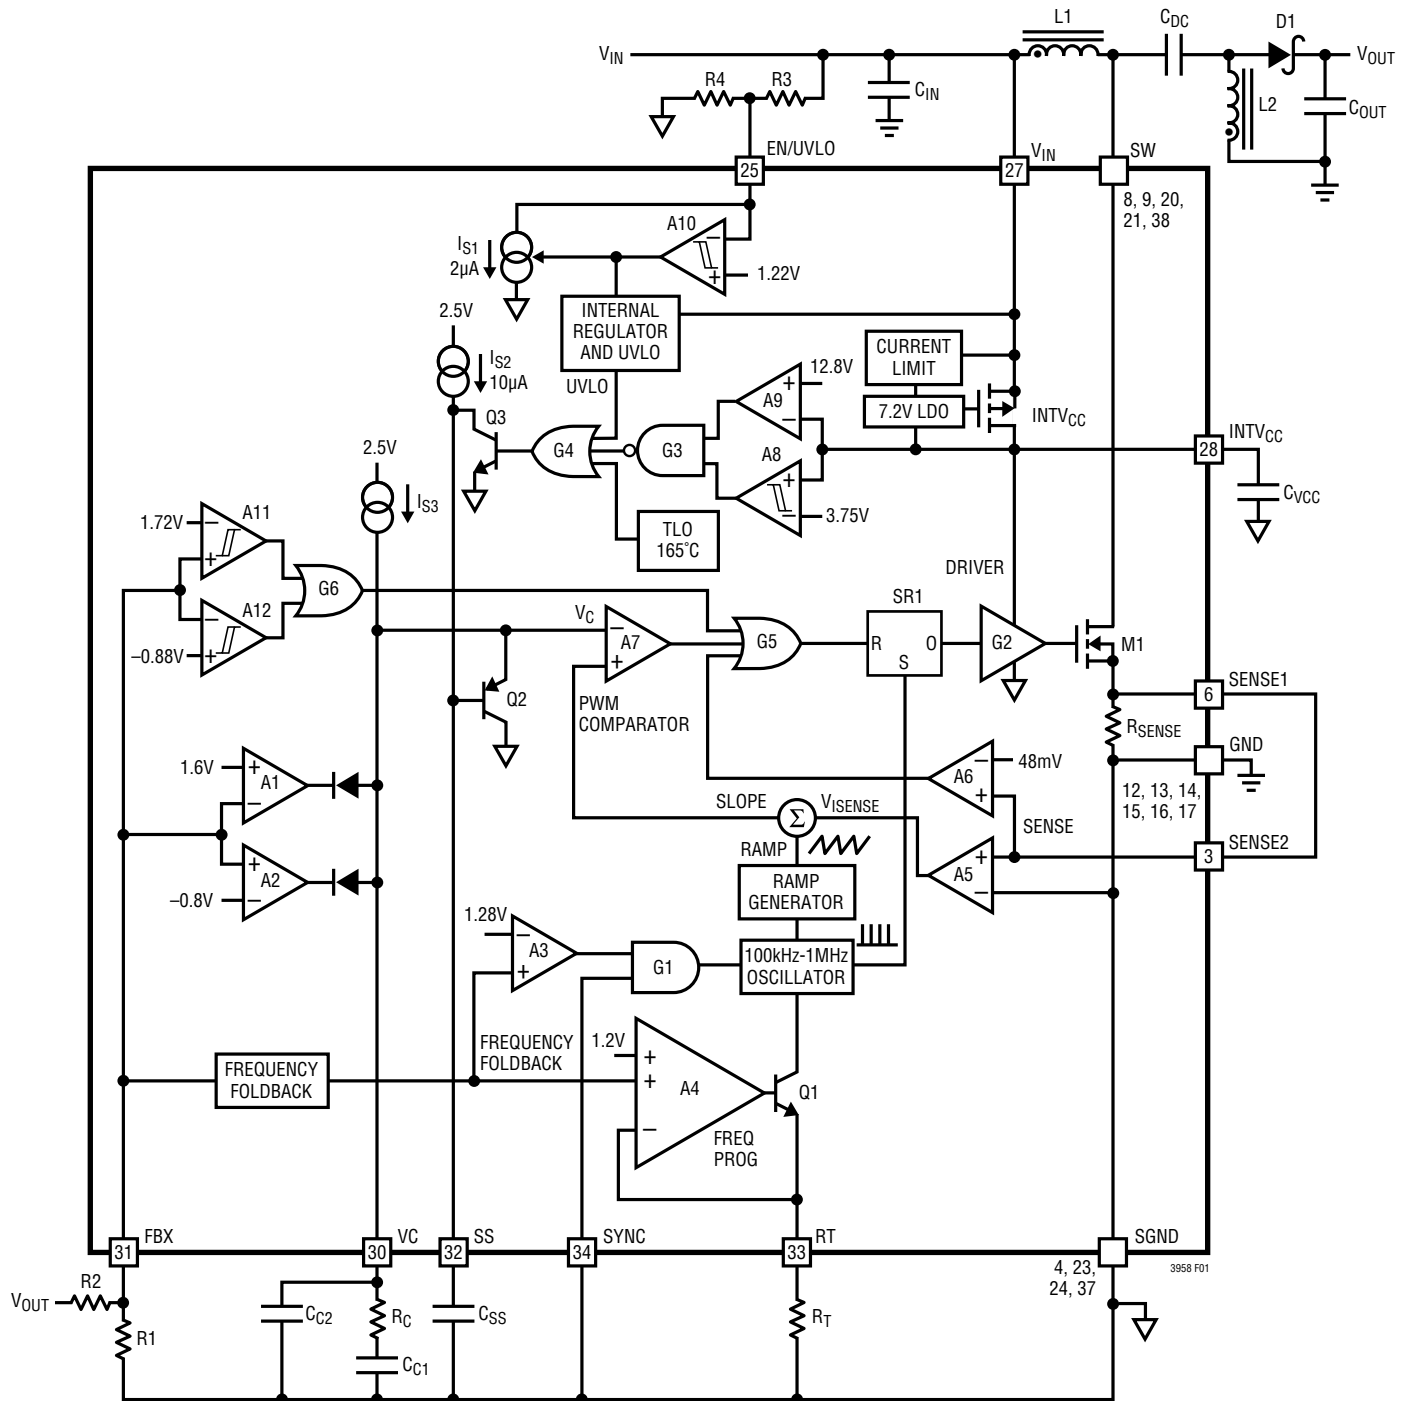

Figure 1. LT3958 Block Diagram Working as a SEPIC Converter
The LT3958 uses a fixed frequency, current mode control scheme to provide excellent line and load regulation. Operation can be best understood by referring to the Block Diagram in Figure 1.
The LT3958 is capable of generating either positive or negative output voltage with a single FBX pin. It can be configured as a boost, flyback or SEPIC converter to generate positive output voltage, or as an inverting converter to generate negative output voltage. When configured as a SEPIC converter, as shown in Figure 1, the FBX pin is pulled up to the internal bias voltage of 1.6V by a voltage divider (R1 and R2) connected from V_{OUT} to SGND. Comparator A2 becomes inactive and comparator A1 performs the inverting amplification from FBX to VC. When the LT3958 is in an inverting configuration, the FBX pin is pulled down to -0.8V by a voltage divider connected from V_{OUT} to SGND. Comparator A1 becomes inactive and comparator A2 performs the noninverting amplification from FBX to VC.
The purpose of this current is to allow the user to program the rising hysteresis. The Block Diagram of the comparator and the external resistors is shown in Figure 1. The typical falling threshold voltage and rising threshold voltage can be calculated by the following equations:
An internal, low dropout (LDO) voltage regulator produces the 7.2V INTV_{CC} supply which powers the gate driver, as shown in Figure 1. The LT3958 contains an undervoltage lockout comparator A8 and an overvoltage lockout comparator A9 for the INTV_{CC} supply. The INTV_{CC} undervoltage (UV) threshold is 3.75V (typical), with 0.15V hysteresis, to ensure that the internal MOSFET has sufficient gate drive voltage before turning on. The logic circuitry within the LT3958 is also powered from the internal INTV_{CC} supply.
The choice of operating frequency may be determined by on-chip power dissipation (a low switching frequency may be required to ensure IC junction temperature does not exceed 125°C), otherwise it is a trade-off between efficiency and component size. Low frequency operation improves efficiency by reducing gate drive current and MOSFET and diode switching losses. However, lower frequency operation requires a physically larger inductor. Switching frequency also has implications for loop compensation. The LT3958 uses a constant-frequency architecture that can be programmed over a 100kHz to 1000kHz range with a single external resistor from the RT pin to ground, as shown in Figure 1. The RT pin must have an external resistor to SGND for proper operation of the LT3958. A table for selecting the value of R_T for a given operating frequency is shown in Table 1.
The output voltage V_{OUT} is set by a resistor divider, as shown in Figure 1. The positive and negative V_{OUT} are set by the following equations:
The LT3958 addresses this mechanism with the SS pin. As shown in Figure 1, the SS pin reduces the power MOSFET current by pulling down the VC pin through Q2. In this way the SS allows the output capacitor to charge gradually toward its final value while limiting the start-up peak currents. The typical start-up waveforms are shown in the Typical Performance Characteristics section. The inductor current I_L slewing rate is limited by the soft-start function.
Loop compensation determines the stability and transient performance. The LT3958 uses current mode control to regulate the output which simplifies loop compensation. The optimum values depend on the converter topology, the component values and the operating conditions (including the input voltage, load current, etc.). To compensate the feedback loop of the LT3958, a series resistor-capacitor network is usually connected from the VC pin to SGND. Figure 1 shows the typical VC compensation network. For most applications, the capacitor should be in the range of 470pF to 22nF, and the resistor should be in the range of 5k to 50k. A small capacitor is often connected in parallel with the RC compensation network to attenuate the VC voltage ripple induced from the output voltage ripple through the internal error amplifier. The parallel capacitor usually ranges in value from 10pF to 100pF. A practical approach to design the compensation network is to start with one of the circuits in this data sheet that is similar to your application, and tune the compensation network to optimize the performance. Stability should then be checked across all operating conditions, including load current, input voltage and temperature. Application Note 76 is a good reference.